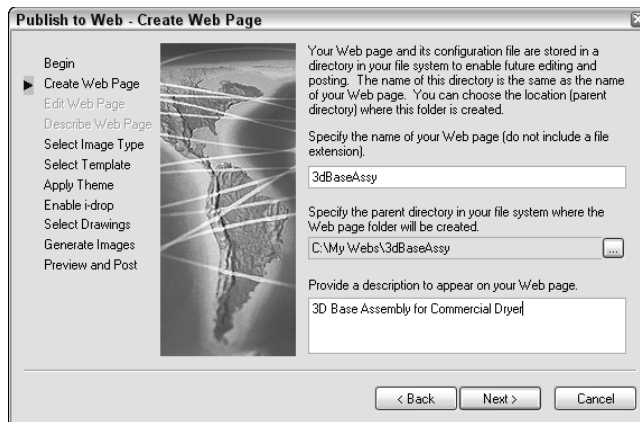

Figure 28-9: On the Create Web Page screen, specify where you want to create your Web page on your own computer system and create a description of the page.
3. On the **Create Web Page** screen, shown in Figure 28-9, type a filename for the Web page. (This action creates a folder with this name and places all the files for the Web page in the folder.) Then click the ellipsis button (...) to navigate to where you want to create this file. If you already store Web page files on your system, you can use the same location. Finally, add a description that will appear on the Web page. Click **Next**.